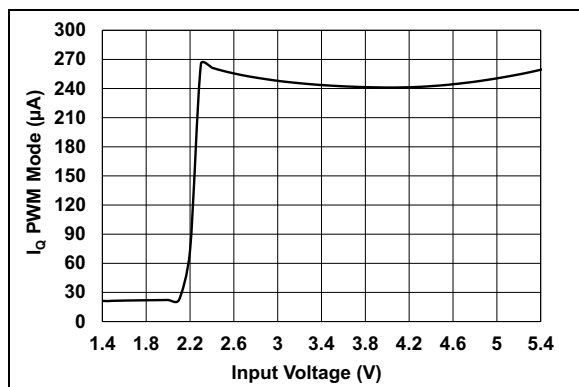

FIGURE 2-8: No Load Input Current, I_{IN0} vs. V_{IN} ($EN = V_{IN}$).
- 2:** I_{IN0} varies with input and output voltage (Figure 2-8). I_{IN0} is measured on the V_{IN} pin when the device is switching ($EN = V_{IN}$), at no load, with $R_{TOP} = 120\text{ k}\Omega$ and $R_{BOT} = 1.05\text{ M}\Omega$.
- I_{IN0} varies with input and output voltage (Figure 2-8). I_{IN0} is measured on the V_{IN} pin when the device is switching ($EN = V_{IN}$), at no load, with $R_{TOP} = 120\text{ k}\Omega$ and $R_{BOT} = 1.05\text{ M}\Omega$.